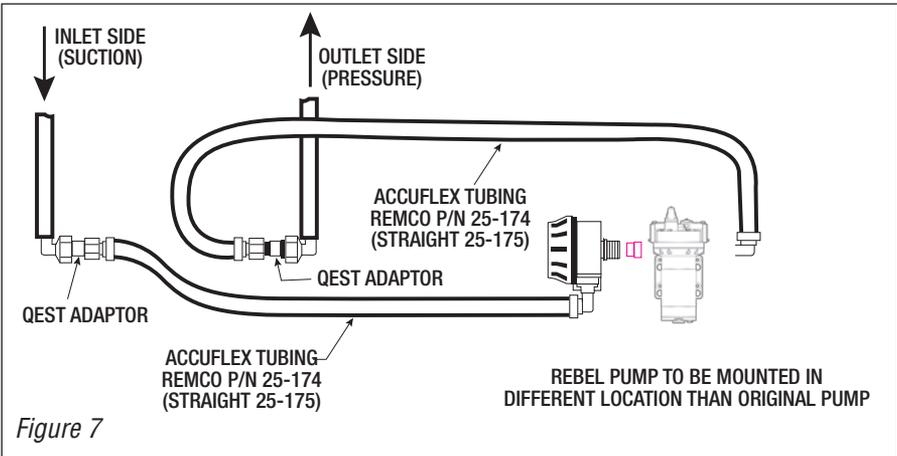

Figure 7
- b. [If the Rebel pump is to be remote mounted, as in Figure 7, page 14].